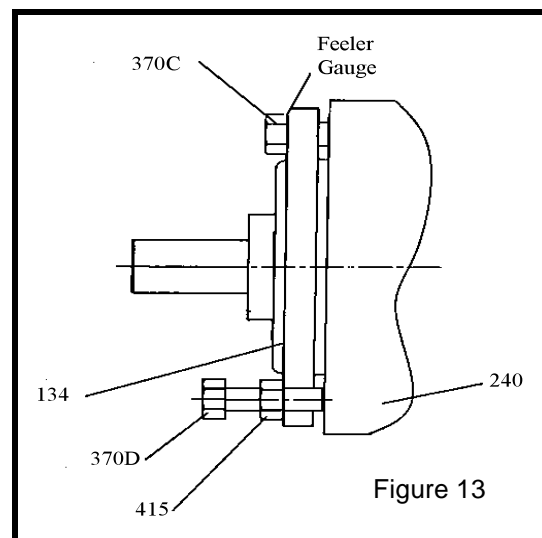

Figure 13
3. Loosen jam nuts (415) on jack bolts (370D). Back off jack bolts several turns (Figure 13).
4. Turn all locking bolts (370C) in several turns until impeller contacts the casing (100). Turn shaft to insure contact has been made.
5. Loosen locking bolts (370C) until a 0.015" feeler gauge can be inserted between the underside of the bolt head and the bearing shell (134).
6. Tighten jack bolts (370D) evenly until the bearing shell (134) is tight against the locking bolts (370C). Make sure all bolts are tight. Tighten jam nuts (415).